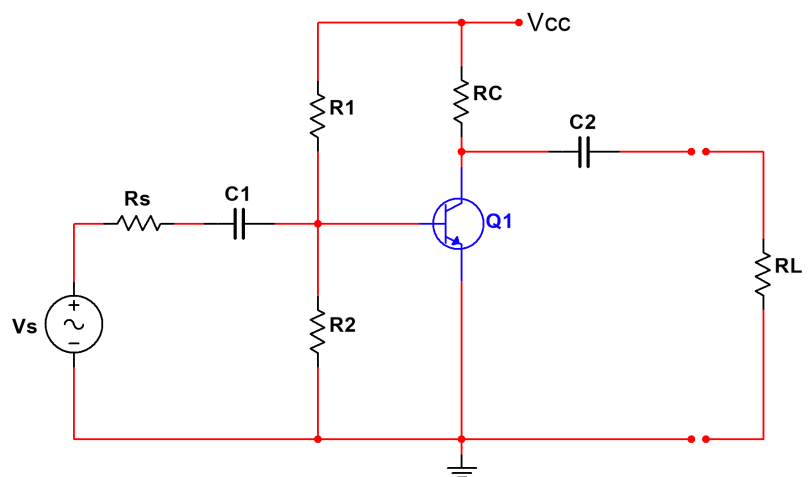

Figure 1. CE amplifier circuit
- a. Design a common-emitter amplifier circuit, as shown in figure 1, to meet the following specifications.
Consider the same circuit designed in part a (Figure 1) in the prelab section. Construct this circuit in Multisim. Use voltage and current probes to measure the following voltages and currents.